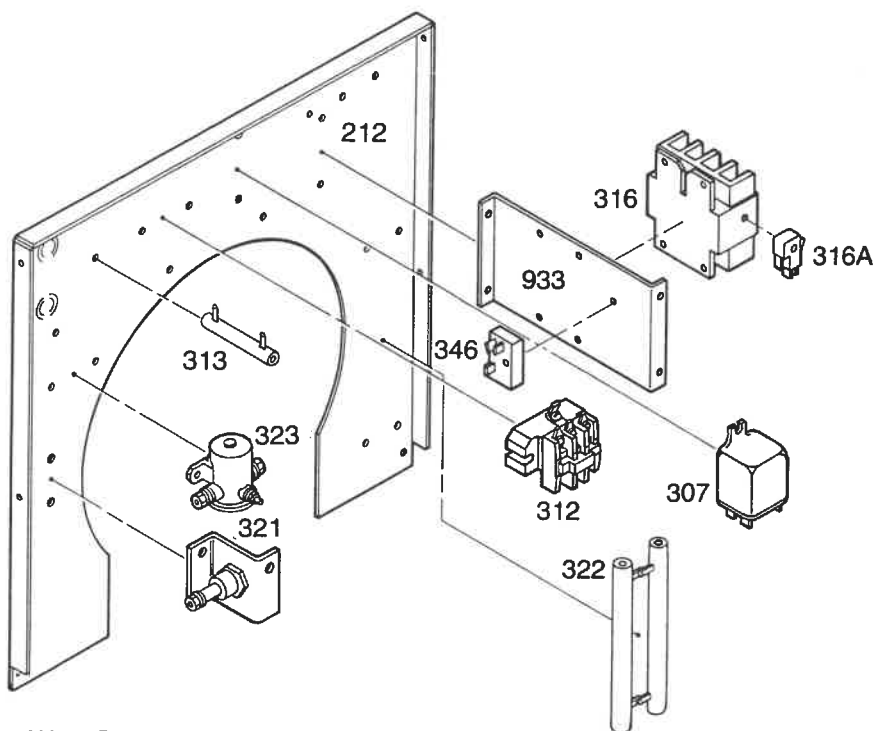

Figure 11 — Models 3W056B & 3W057B Back Panel Assembly
*See Figures 11 & 12 parts lists.